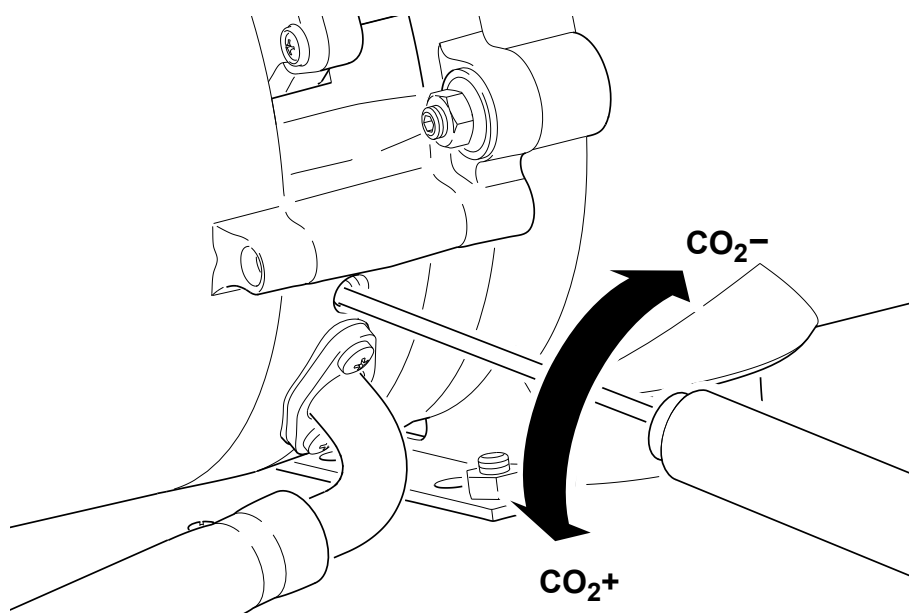

Fig. 701 Adjustment of the exhaust CO2 content
The exhaust CO2 content adjustment is performed using an adjustment screw, accessible at the heater above the gas port (see Fig. 701).
4. Insert a hex screw driver into the hole above the gas port (see Fig. 701) and turn the adjustment screw until the target value is reached.